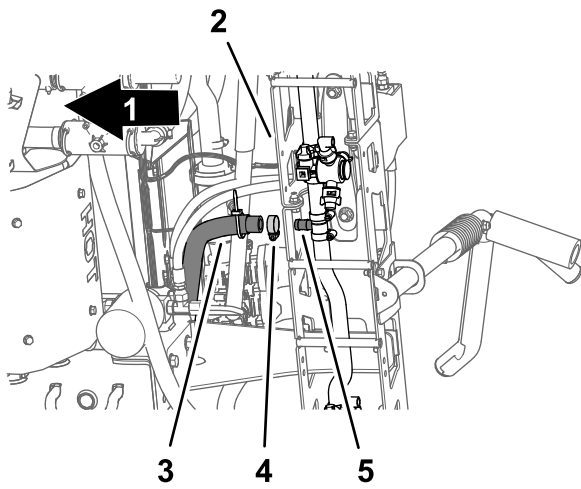

Figure 36
5. Under the center-spray section, remove the hose clamp that secures the supply hose for the center-spray section to the barbed T-fitting (Figure 36).